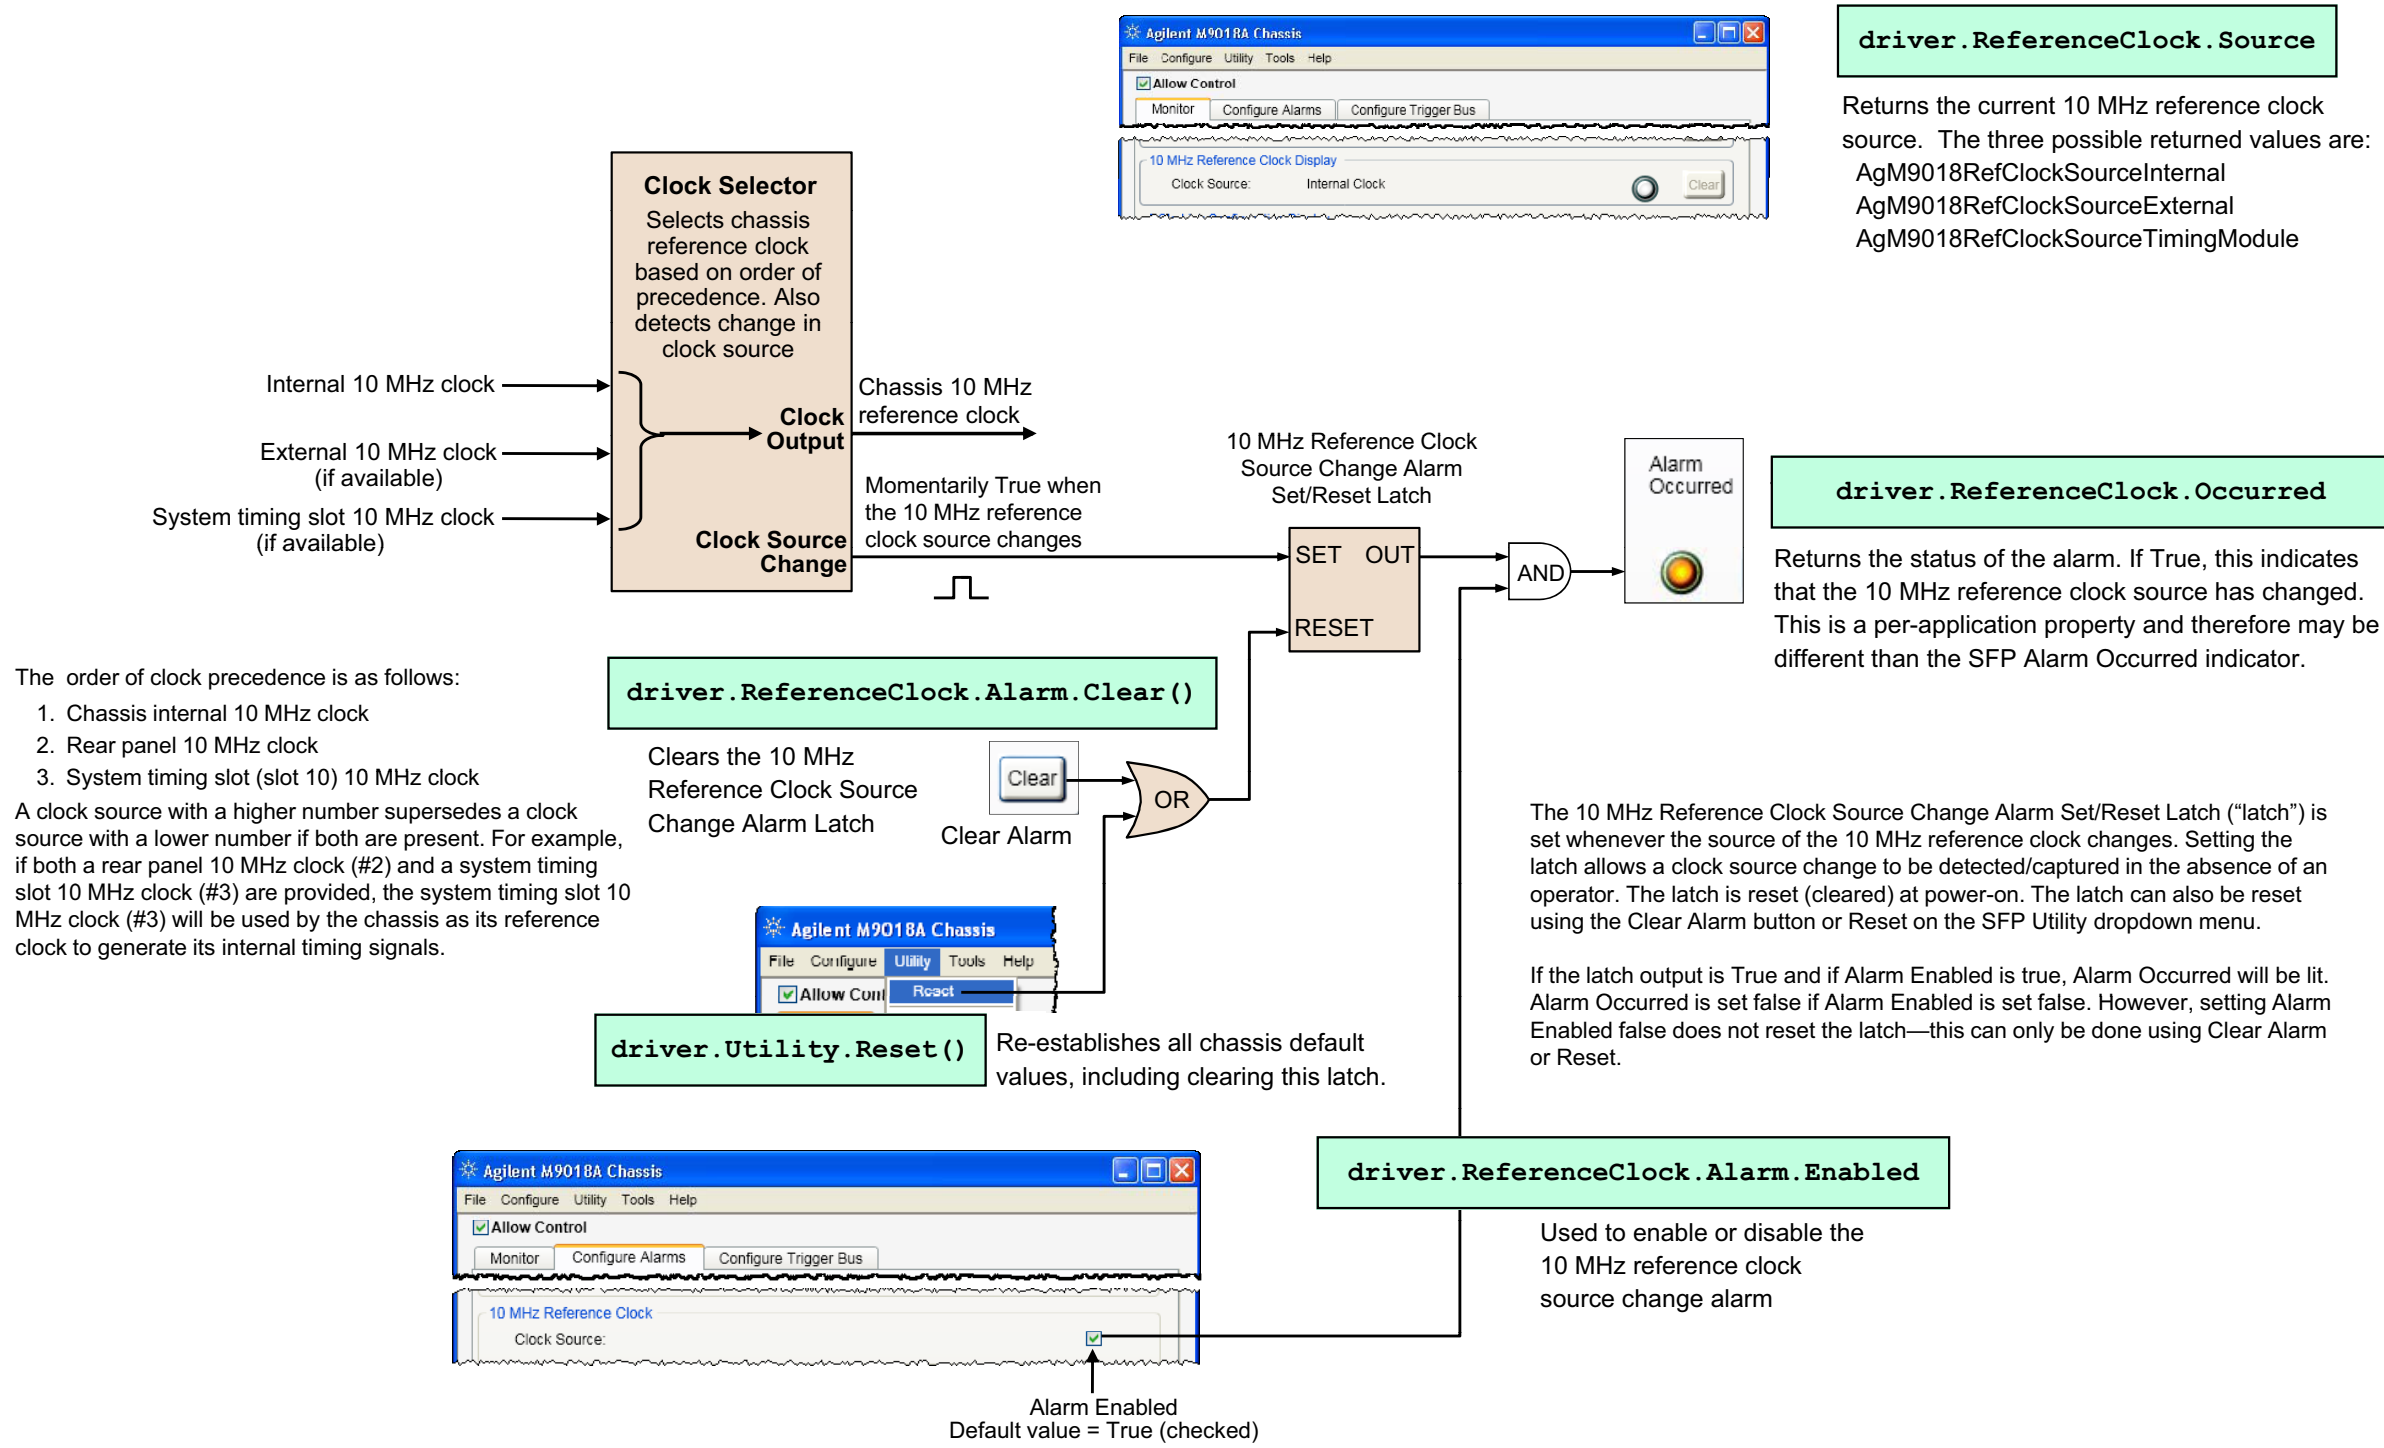

Figure 31
- Using the IVI-COM driver and C# – Figure 31 on page 59